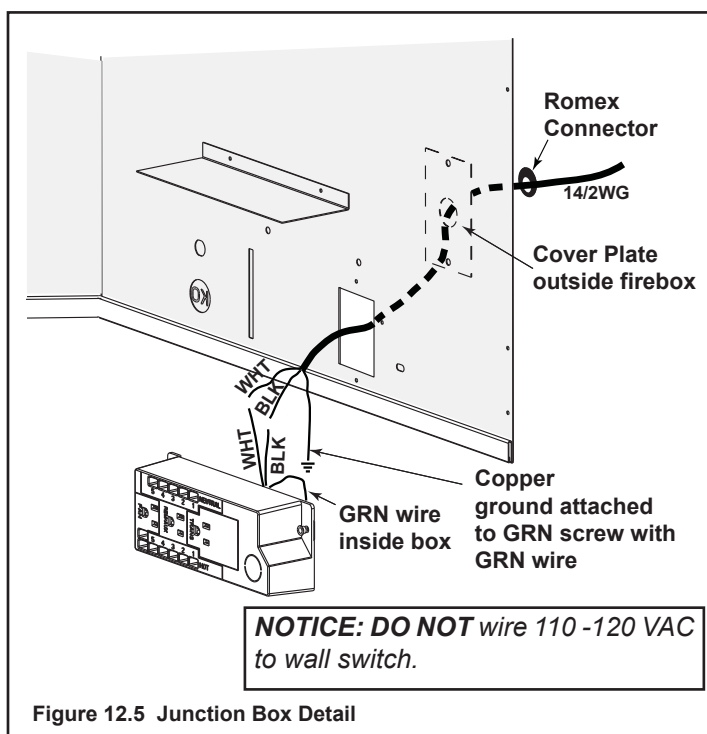

Figure 12.5 Junction Box Detail
- A 110 VAC junction box MUST be installed for use with a fan or remote control. See Figure 12.5 for junction box wiring. Keep wire lengths short as possible.
- Remove the screw attaching the junction box/receptacle to the outer shell, rotate the junction box inward to disengage it from the outer shell (see Figure 12.5).
- Pull the electrical wires from outside the appliance through the opening into the valve compartment and secure wires with a Romex connector. See Figure 12.5.